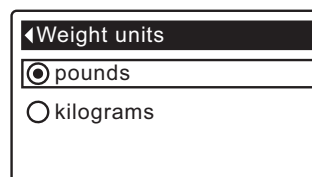

FIG. 57
5. Press the SELECT (O) button to display the Weight units menu (See Figure 57).
6. If the desired weight unit already has a black dot next to it (See Figure 57), go to Step 7. Otherwise, press the DOWN (▼) or UP (▲) buttons to scroll to the other weight unit, then press SELECT (O) to choose it.
7. Press the SELECT (O) button. The display will go back to the User preferences menu.